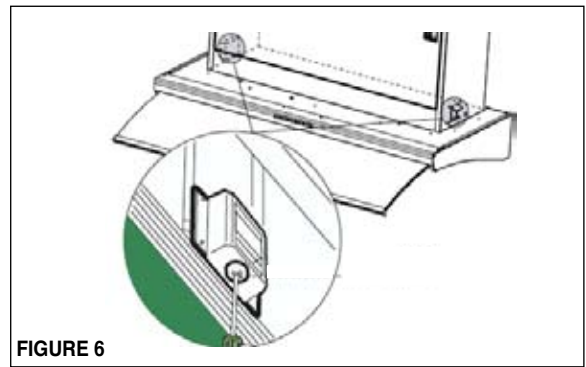

FIGURE 6
4. The rangehood mounts to the cabinet by two spring loaded brackets, one on each side of the rangehood (**FIGURE 6**) Lift the rangehood into the cutout opening in the cabinet. Be careful not to damage the cabinet, rangehood or other appliances.
6. Tighten the rangehood to the cabinet by rotating the screws with a phillips screw driver. As seen in (**FIGURE 6**)